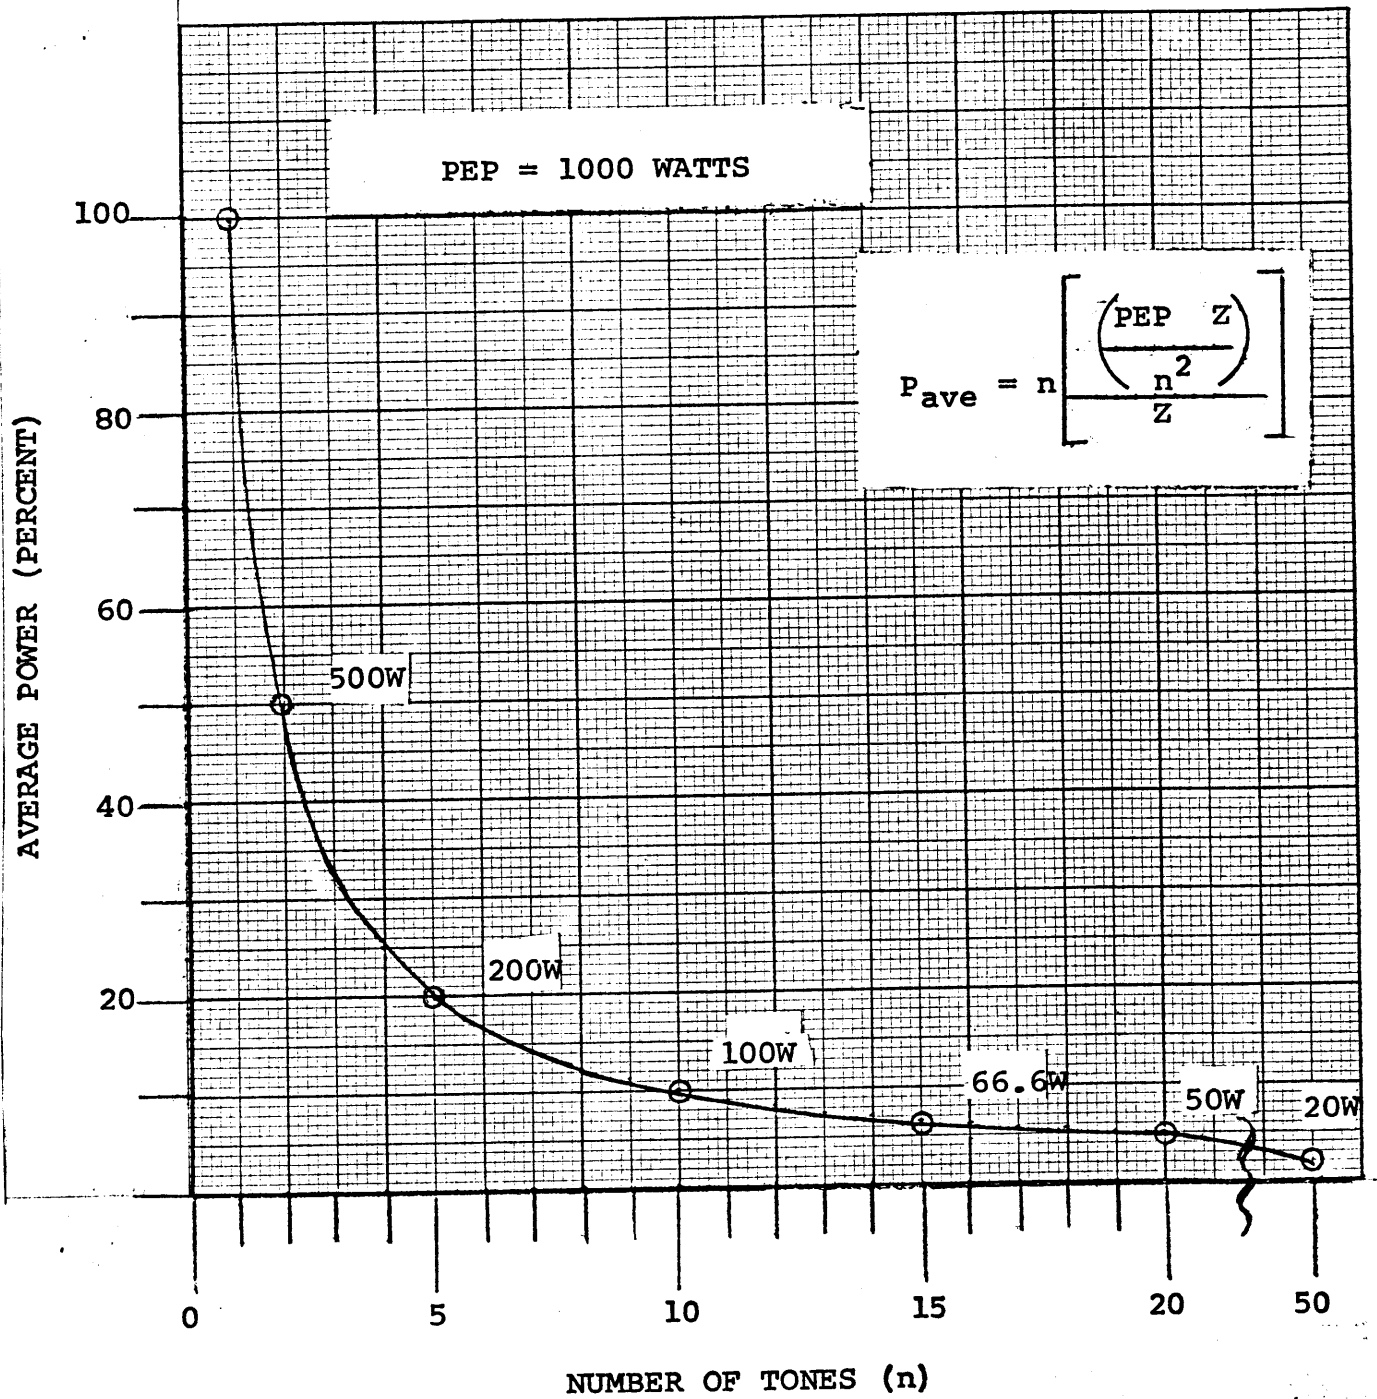

Figure 3-1. Ratio of Average Power to PEP as a function of tones
The more tones (teletype tones, carrier, voice, etc.) which are being transmitted, the less average power, as indicated on the OUTPUT meter. Figure 3-1 shows average power (measured in percent of peak envelope power) as a function of the number of tones being transmitted.
Two typical examples of proper operation, utilizing the relationship shown in figure 3-1, are given as follows:
(1) A single sideband transmission of two teletype tones with suppressed carrier at the full power level (1,000 watts PEP): The MMX(A)-2 MODE switch should be in the USB position and the CARRIER SUPPRESSION switch in the FULL position, providing full suppression of carrier. The transmission contains two tones, and by reference to figure 3-1 the maximum average power should be approximately 50 percent of the 1,000 watt PEP, or 500 watts average. The USB audio level control on the MMX(A)-2 should be adjusted so that the transmitter OUTPUT meter reads approximately 500 watts average.
(2) AME transmission of voice at the 800 watts PEP power level: The MMX(A)-2 MODE switch should be in the USB position and the CARRIER SUPPRESSION switch in the 6 db position, providing carrier suppression of 6 db from PEP, or approximately 200 watts (1/4 power). PEP is derived from the addition of carrier voltage and tone voltages. With carrier suppressed 6 db from PEP, the carrier voltage is already one half of the total voltage at PEP. The sum of the tone voltages must not exceed the remaining one half of the total voltage at PEP. Similarly, since the carrier voltage and the voltage available for tones are equal, so are the carrier power and the total tone power available. A maximum of approximately 200 watts PEP is available for tone transmission. A voice transmission contains an infinite number of tones, and by reference to figure 3-1, the average power for an infinite number of tones should be approximately 10% of 200 watts (20 watts). The CARRIER SUPPRESSION switch in the 6 db position will provide approximately 200 watts on the transmitter OUTPUT meter, and the USB audio level control on the MMX(A)-2 should be adjusted so that the transmitter OUTPUT meter reads approximately 220 watts average (the addition of carrier and intelligence power).